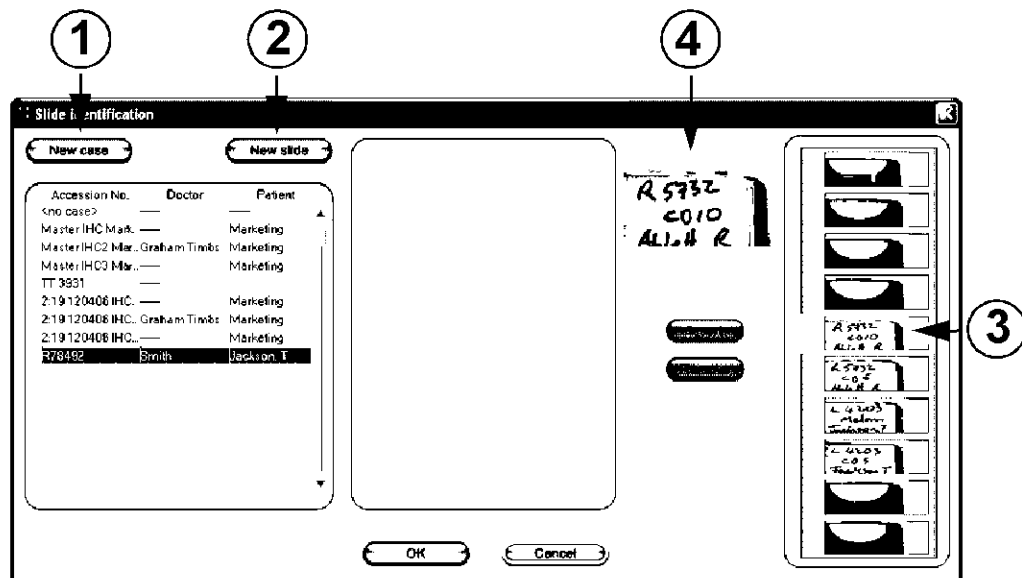

Figure 106: Slide identification dialog with slide status display
The "Slide identification" dialog appears with **New case** and **New slide** buttons available (items 1 & 2 in Figure 106).